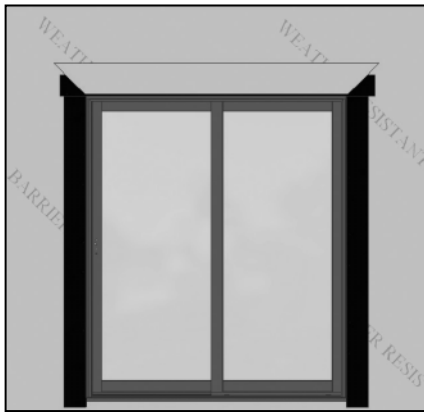

FIG. 22
- D) Flip down the top flap of the WRB. (Fig. 22)